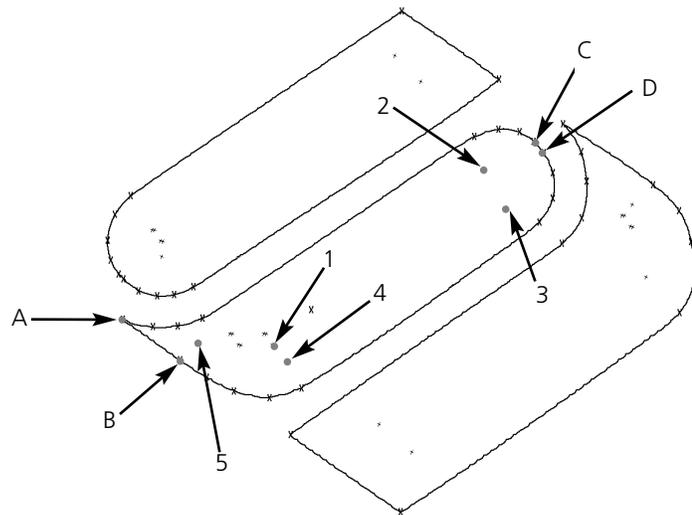

Figure 5-61
- Near point D in the first fill, generate a lock stitch pattern, then add the needle up / normal stitch functions to go to point 1 in the middle section of the logo as shown in Figure 5-61.
2. Put in a lock stitch pattern and generate underlay stitches with Mk1s at points 2, 3, 4, and 5 in Figure 5-61.
5. Now move to point A in Figure 5-61 and enter a Mk1 to start this fill.
6. Move to point B in Figure 5-61 and enter another Mk1. You have just defined the first line of the middle fill.
7. Enter Mk1s at C and D in Figure 5-61 to define the last line of the fill. Notice that this line is the shorter of the two so line A-B will determine the direction of stitching.